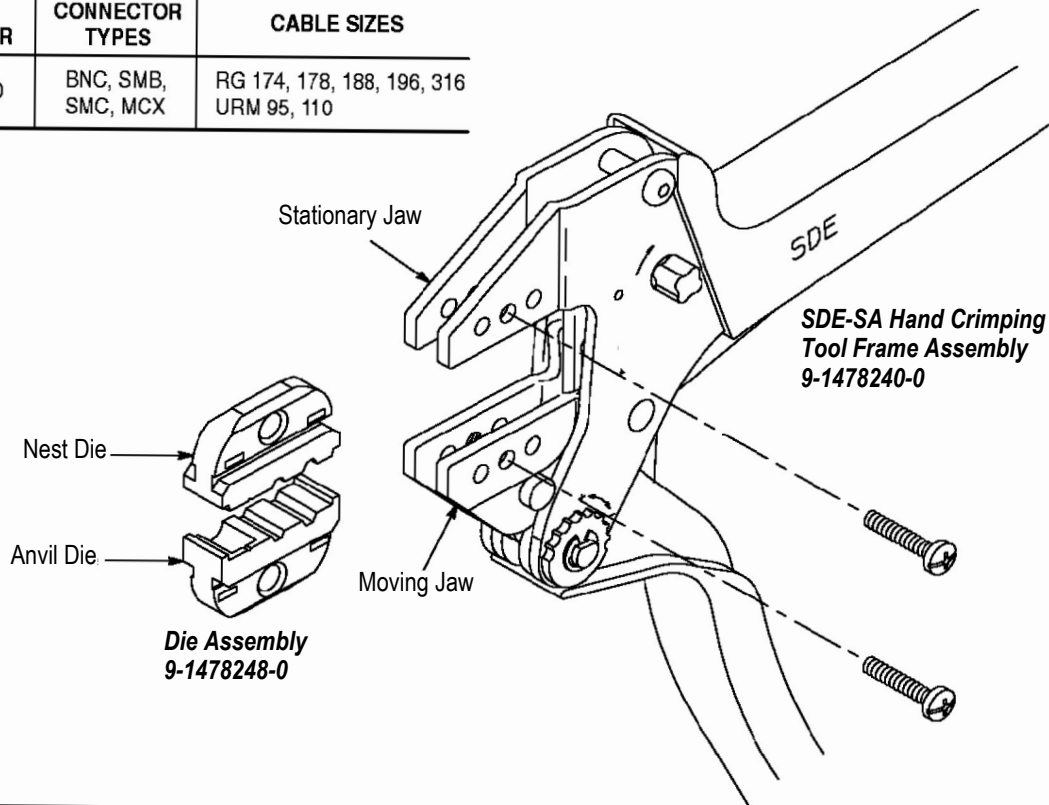

Figure 1
This instruction sheet covers the use and maintenance of Hex Crimping Die 9-1478248-0 (in the various configurations - denoted by the dash number following the base part number), used in SDE-SA Hand Tool Frame 9-1478240-0. The die crimps plug connectors onto coaxial cable. See Figure 1 for a list of the connector types and cable sizes the die set can crimp.
See Figure 1.
2. See Figure 1 for normal orientation of the dies. Insert the dies inside the tool jaws and align the retaining screw holes.